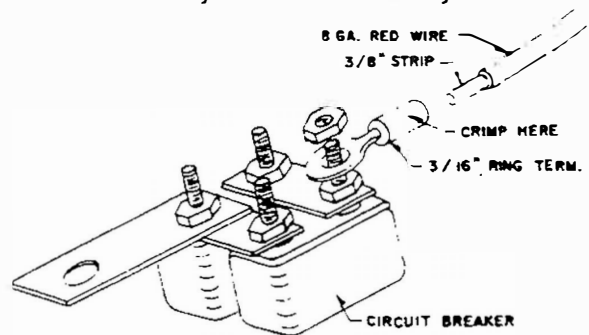

Figure 7
- C. Attach the #8 - 3/16" ring terminal to one end of the red wire using a wire stripper and terminal crimper. Attach to the circuit breaker as shown in Figure 7. Place the wire where it can be easily attached to your starter solenoid or to the positive (+) terminal of your vehicle battery.